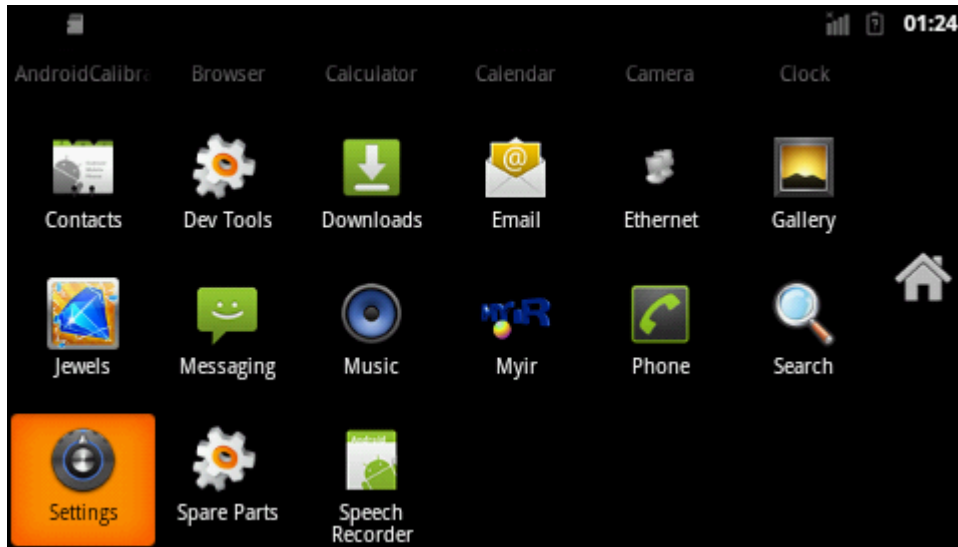

Figure 5-15
(5) Select "Settings" option. Refer to figure 5-15: